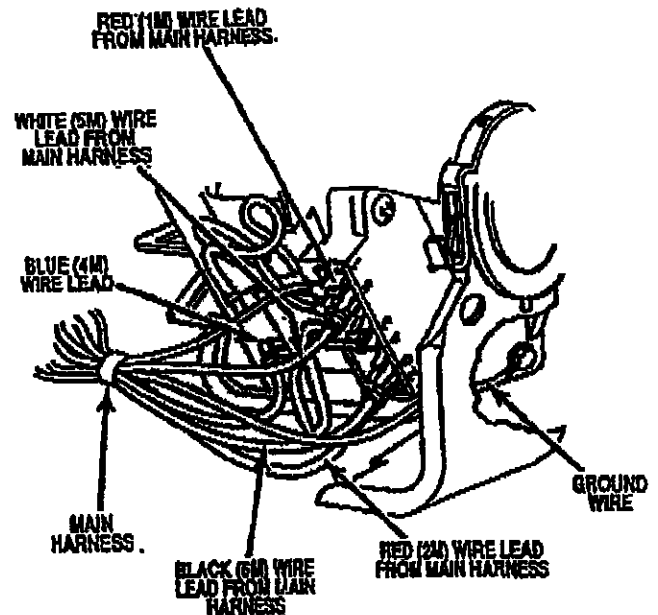

FIGURE 6
11. ~~Connect the blue (4M) wire from main harness to the vacant terminal on the overload projector that you remove the jumper wire from in step 10.~~ *See Figure 6.*
See Figure 6.
20. Reconnect ground wire. *See Figure 6.*